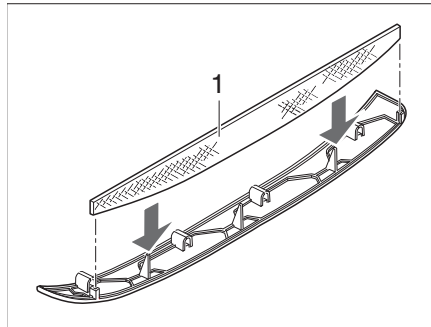
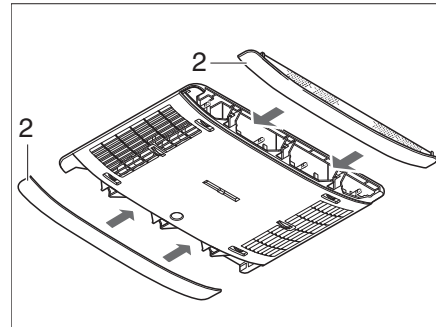

Fig. 311 Lint filter air conditioning unit
Fig. 312 Air conditioning unit panels
Two lint filters are located in the side panels (Fig. 312,2). The lint filters must be cleaned at regular intervals, at least every 6 months however, and replaced if necessary.
- Remove the panels (Fig. 312,2) from the air distribution unit and clean the lint filter (Fig. 311,1) or replace it if necessary.